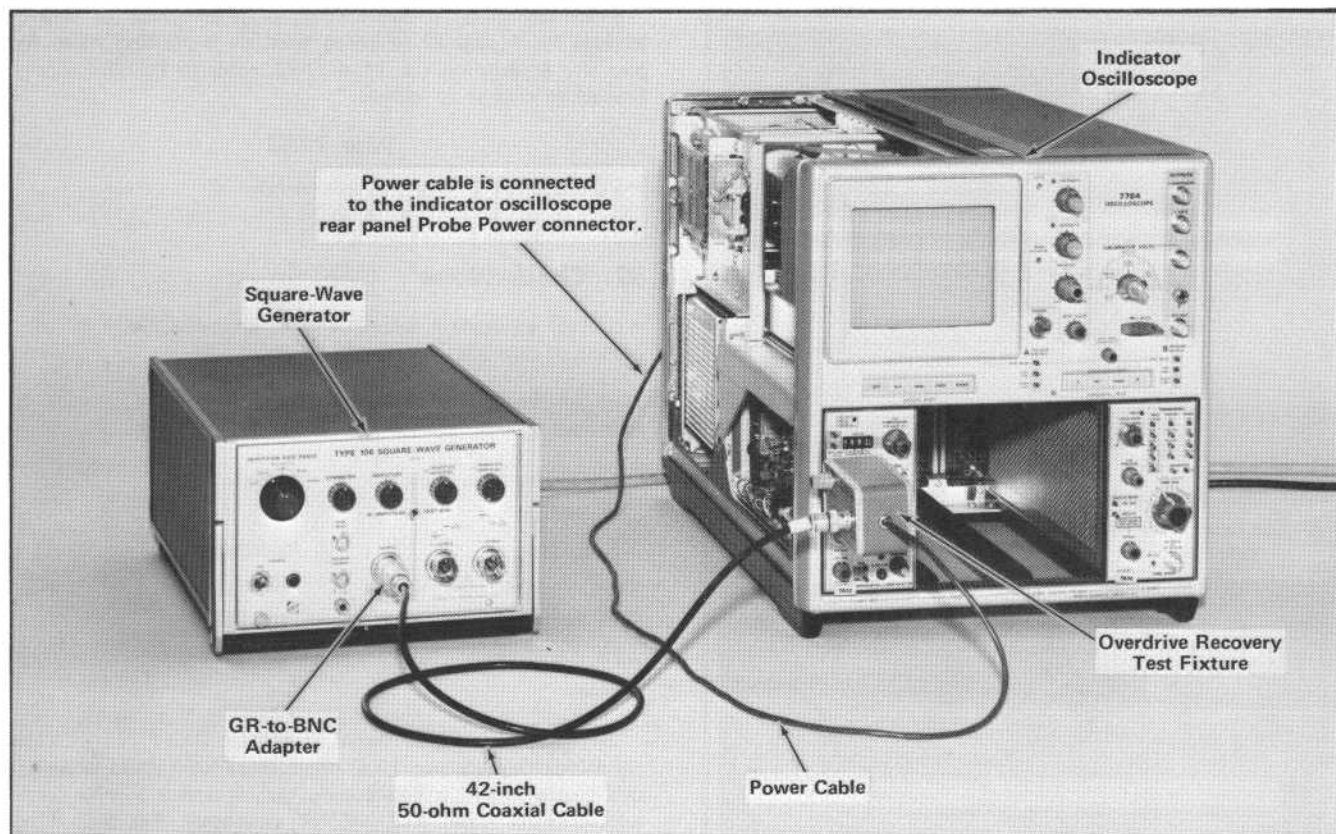

Fig. 5-30. Equipment setup required for performing step 23.
a. Test equipment setup, with connections made at completion of step 33f, is shown in Fig. 5-30.